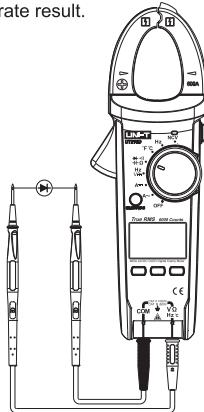

Fig. 9
**8.Measurement of diode (shown as Fig. 9)**